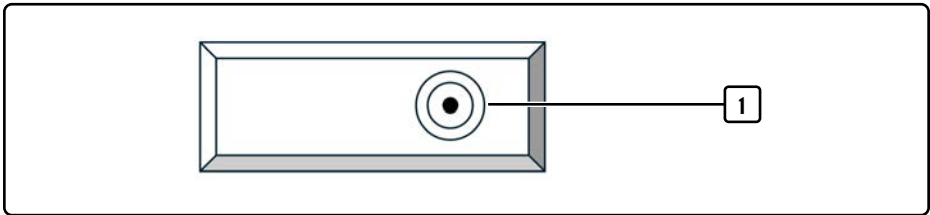

Fig. 4 Plan view of water tank
3. Insert the filter cartridge into the water filter adapter (1, Fig. 4) in the water tank so that it latches in place.